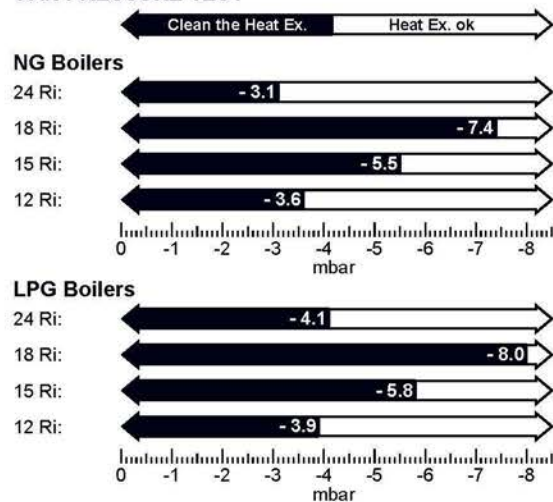

Fig. 58 Fan pressure readings
- ▶ The pressure will read negative, refer to the chart in figure 58.